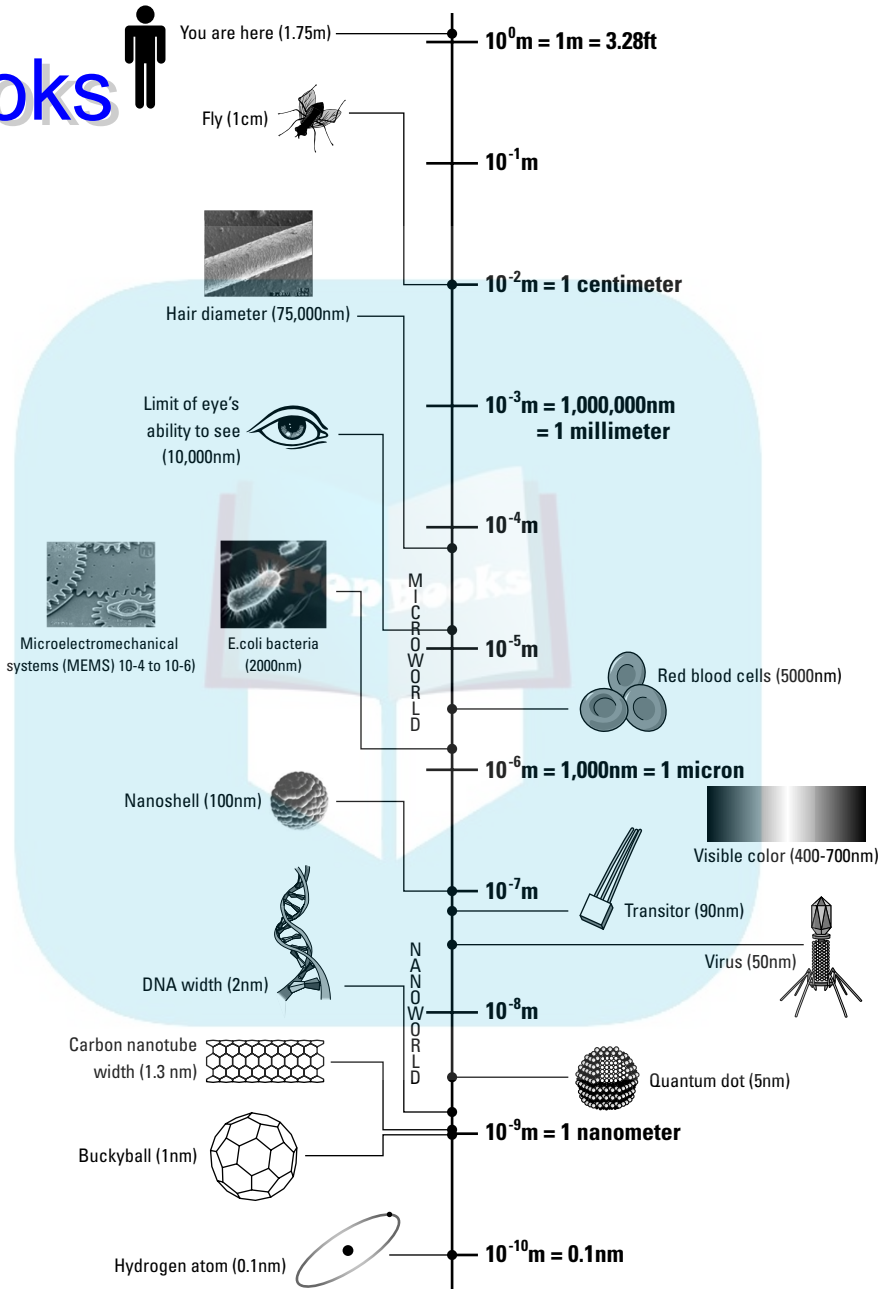

Figure 1-1: Size comparisons, from you (1.75 meters, or approximately 5 ft. 7 in.) all the way down to the hydrogen atom (0.1 nm).
Nano, Greek for “dwarf,” means one billionth. Measurement at this level is in *nanometers* (abbreviated “nm”) — billionths of a meter. To put this into perspective, a strand of human hair is roughly 75,000 nm across. On the flipside of the concept, you’d need ten hydrogen atoms lined up end-to-end to make up 1 nm. Figure 1-1 illustrates the differences in scale that range from you all the way down to one hydrogen atom.
✔ **Carbon Nanotube Transistor (1998):** A carbon nanotube (refer to Figure 1-1) — a graphite sheet rolled into a tube — comes in two main forms, metallic and semiconducting. The carbon nanotube was discovered in 1991 and within only seven years, was used for shuttling electrons across two electrodes. Not only is it incredibly small (nano-scale), but it also uses less energy and gives off less heat by using few electrons to indicate whether it's on or off. (For more on carbon nanotubes, see Chapter 4.)
- ✔ **Nanostructures:** In 1985, Robert F. Curl Jr., Harold W. Kroto, and Richard E. Smalley discover buckminsterfullerenes (buckyballs — refer to Figure 1-1), soccer-ball-shaped molecules made of carbon and measuring roughly 0.7nm wide. (For more on buckyballs, see Chapter 4.)